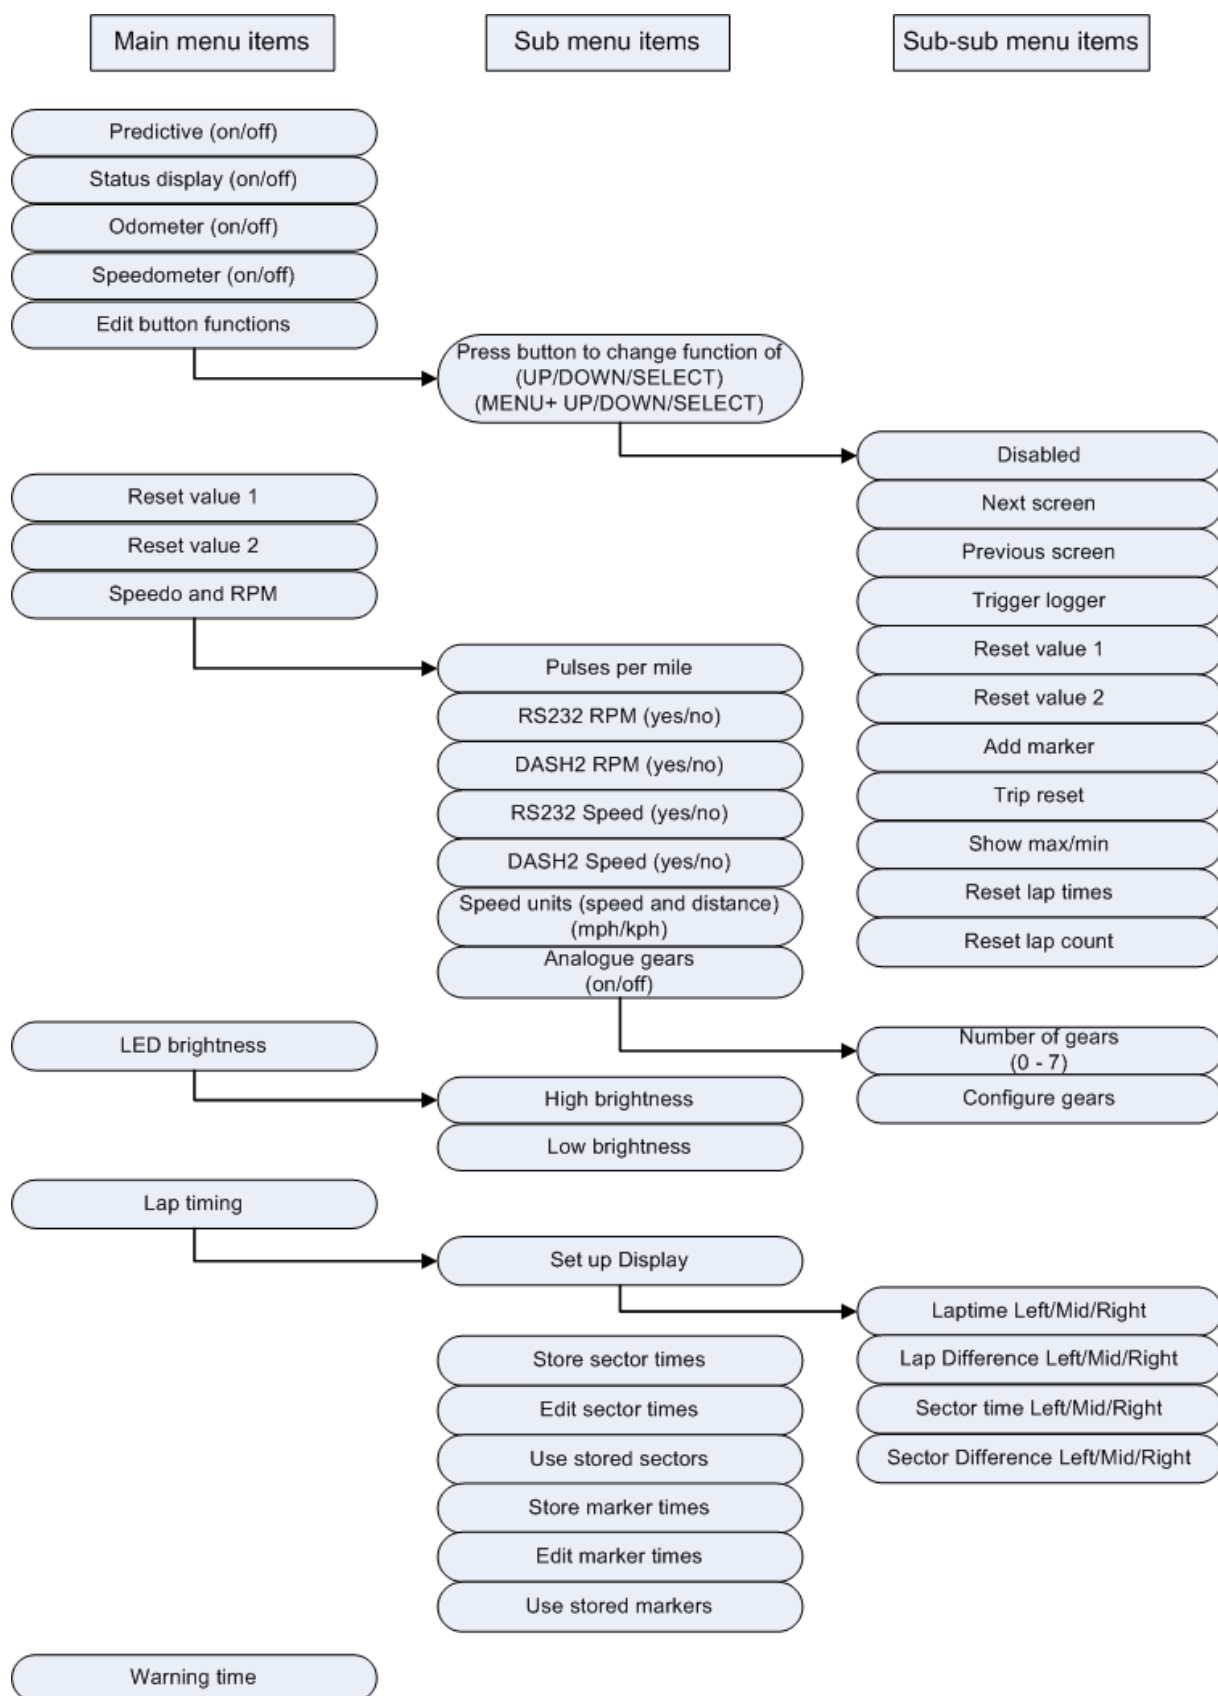

Figure 4: Menu system structure
Figure 4 illustrates the structure of the menu system. The following sections describe the details and operation of each function.
To edit function settings, display the function in question using the UP/DOWN buttons and press SELECT. Use UP/DOWN to change the function settings, then SELECT to save the new setting and return the DASH2 to its normal display mode. Several menu items also have sub-menus, as shown in Figure 4. In the case of the lap timing functions, first press SELECT to access the lap timing functions from the top level menu, then use the UP/DOWN buttons to display the required sub-menu item and press SELECT again to open the settings, followed by UP/DOWN to change the settings and SELECT to save the new settings and return to normal display mode. In the case of speedo and RPM settings, and LED brightness, press SELECT to access these items from the main menu, then use the UP/DOWN buttons to configure the setting for each item and the SELECT button to save each setting and move onto the next item on that sub-menu. When the last item on the sub-menu is reached pressing SELECT will return the DASH2 to the normal display mode. The normal display mode may also be reached, at any time, by pressing MENU.
The status of an attached logger can be displayed on the DASH2, with a tick mark in the top right hand corner, as shown in Figure 1. It is also possible to set the left hand shift light as a secondary, more highly visible logger status indicator. This is selected using the “Status display” option – item 2 in the DASH2 menu system (see Figure 4). When this mode is enabled, the left-most shift light operates as a logging status indicator. The remaining five shift lights operate as normal. In the top left corner of the display (see Figure 1), the DASH2 also has a binary symbol to indicate that serial communications are being received when the unit is used with a Race Technology data logger or other device, such as a PC.
There are five user-configurable screens of data that can be displayed on the DASH2. The data to display on each screen is selected using the DASH2 configuration program on the PC. Once the screens are configured, the programmable buttons can be used to select which screen to display. This enables toggling through the five screens of data. To set up a button to do this, see the section “Programming soft buttons” and assign the “Next screen” or “Previous screen” functions, as shown in Figure 4. When changing between screens, the screen number is briefly indicated at the bottom of the display.
The UP, DOWN, and SELECT buttons can be programmed to perform many different ‘shortcut’ functions in normal display mode, these buttons can also be combined with the MENU button to provide a further three soft buttons if required. This does not change the function of the buttons from their standard purpose in menu display mode. To change a button function, simply select “Edit button functions” using the UP/DOWN buttons (main menu, item 3), then press SELECT. You will then be asked to press the button you wish to change the function of. Press either SELECT, UP, or DOWN to access the three extra soft buttons, press and hold MENU, without releasing it, press SELECT, UP, or DOWN. The display will change to show which button is selected and the current function assigned to that button. The UP and DOWN buttons can then be used to select any one of 12 functions to assign to this button, as shown in the sub-sub menu in Figure 4. Press SELECT to confirm the button function and return to the main menu.
The DASH2 can store and display maximum and minimum values for each of its input channels. These values can be reviewed by setting one of the buttons to the “Show max/min” function as shown in the sub-sub menu in Figure 4. Refer to “Programming soft buttons” and set the button function to “Show max/min”. Whenever this button is pressed it will temporarily replace the current three displayed channels with their maximum values. This display will be held for around five seconds, during this time, moving on to another display screen will reset the timer, thus enabling you to scroll through all display screens and view all maximum values. If the max/min button is pressed again during this time the screen will change to show the minimum values. A third press of the button will reset all Max/Min values.
It is also possible to hide both the odometer and trip meter – for example in racing applications when this information is not relevant. To hide the odometer and trip meter select “Odometer” from the DASH2 menu system, as shown in Figure 4, and use the SELECT/UP/DOWN buttons to change the setting.
To use a DASH2 button to add markers, refer to “Programming soft buttons” and programme one of the buttons to perform the “Add marker” function, as illustrated in Figure 4. To use a DL1/DL2 switch, connect a switch to the data logger as described in the documentation provided with the data logger itself.